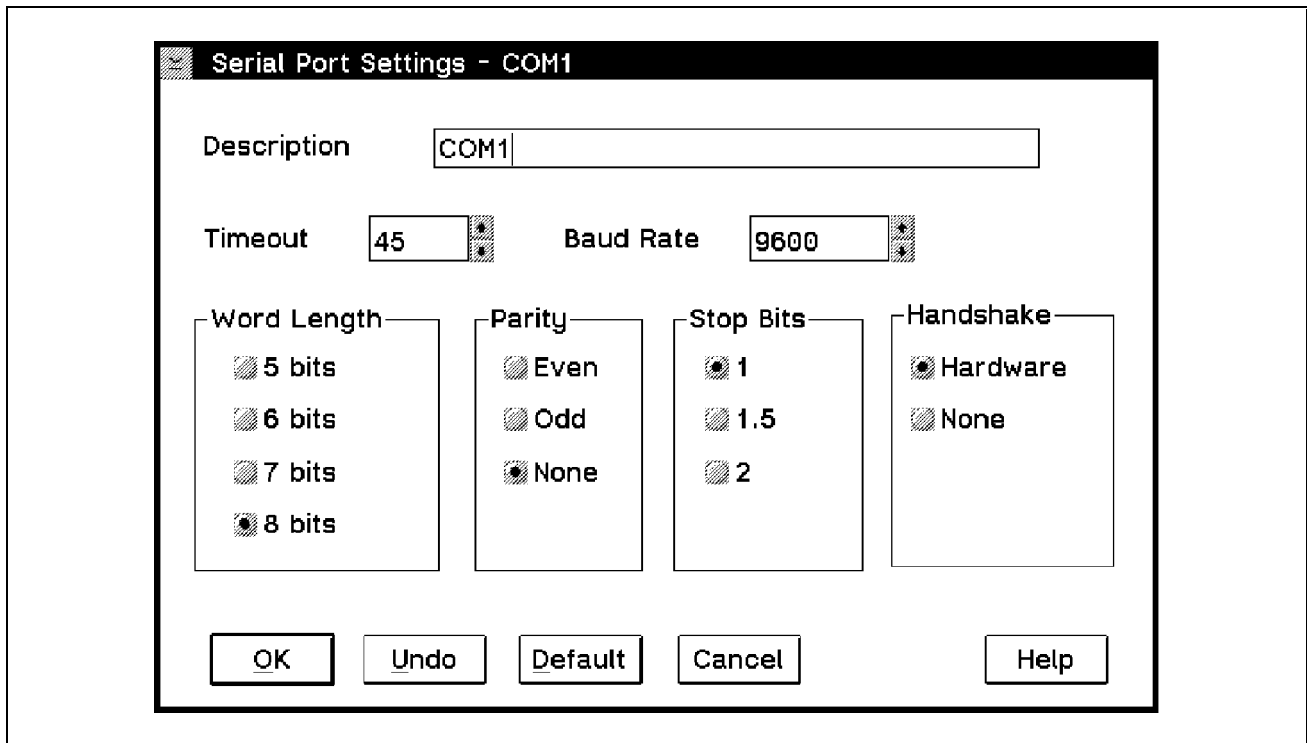

Figure 99. The Serial Port Setting Page
- Double-click on any serial port displayed. The Serial Port Settings page appears as seen in Figure 99 on page 286.